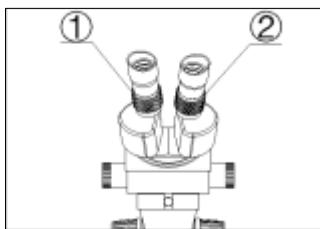

Fig.3
- 5) Observe the specimen through the right eyepiece and make the image clear by turning the right diopter adjusting ring ②. (Fig.3)
- 6) Redo the step(1),(3), (4)and (5) till the right adjusting ring is more precise.
- 7) Do the step (4) and make the image clear which is observed through the left eyepiece by turning the left diopter adjusting ring ①. (Fig.3)